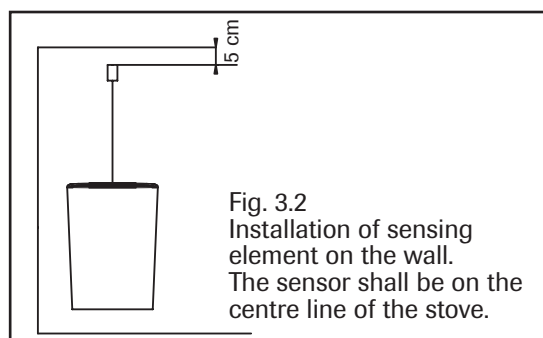

Fig. 3.2
- Install the sensing element on the wall. Cf. Fig. 3.2.